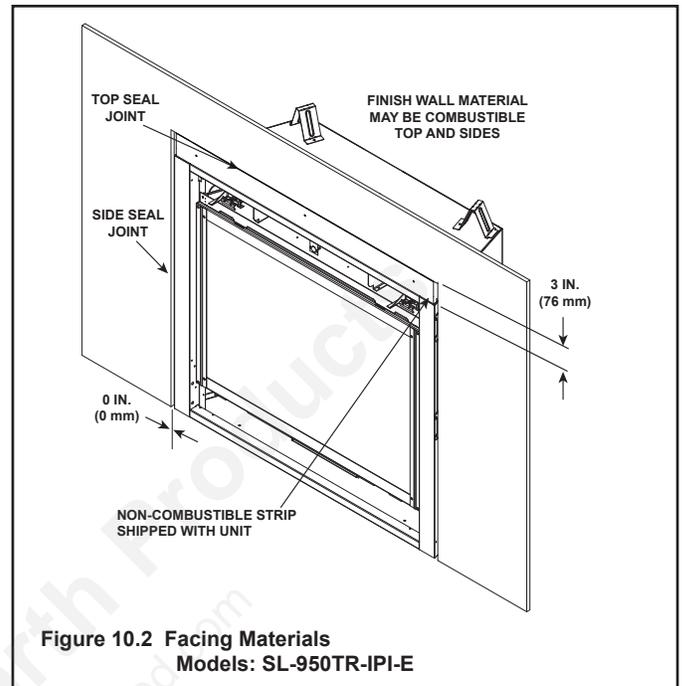

Figure 10.2 Facing Materials
- Seal joints between the finished wall and appliance top and sides using a 300 °F minimum sealant. Refer to Figure 10.1 or Figure 10.2.